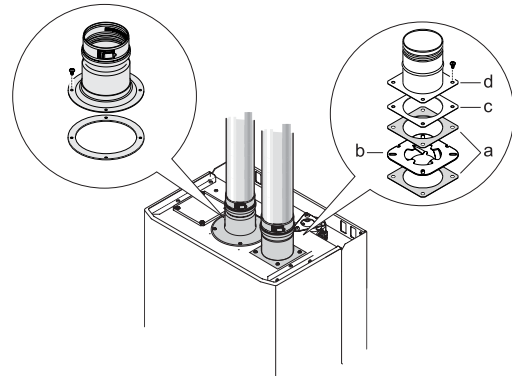

Fig. 15 Mounting sequence
Note: Before installing the combustion air inlet accessory, the appropriate inlet air restrictor must be determined using Tables 6, 7 and 8. Refer to Fig. 15 for mounting sequence.
Refer to Fig. 15 for mounting sequence.
- Place gasket, deflector, gasket and inlet air restrictor on the air inlet opening lining up screw holes as seen in Fig. 15.